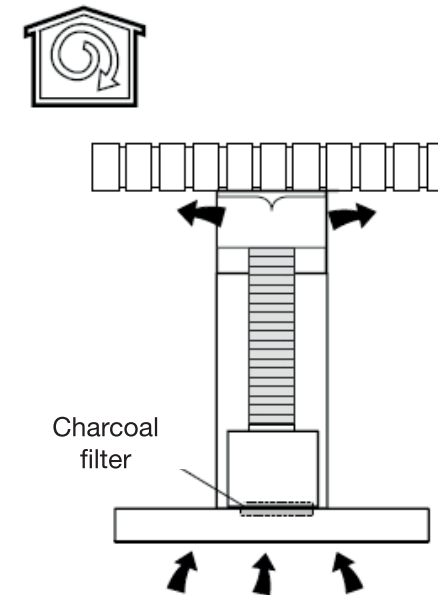

Figure 2
- or in its RECYCLING version (figure 2) (factory configuration).
Used in its recycling version (figure 2)